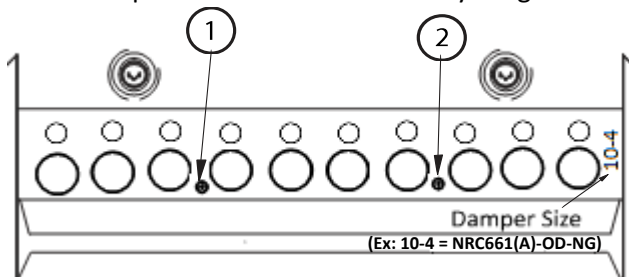

FIGURE 3
- 8) After manifold plate is removed, the existing damper will be exposed as indicated in Figure 3 below. Remove screws (1) and (2) then pull the damper off the burner assembly. Check for proper size of damper with the chart below and replace with new damper that was included with your gas conversion kit.